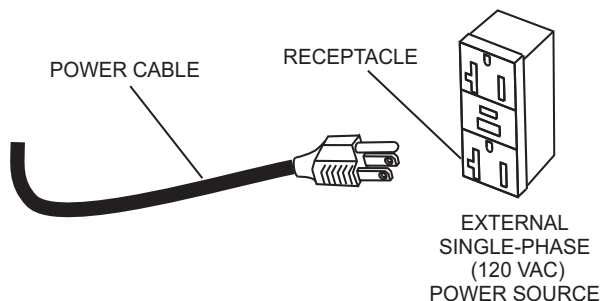

Figure 17. 120 VAC Receptacle
3. If using power source (Figure 17) other than a portable generator, plug the AC power cord from the lamp into a 120 VAC, 60 Hz receptacle that is protected by at least a 15 amp circuit breaker.